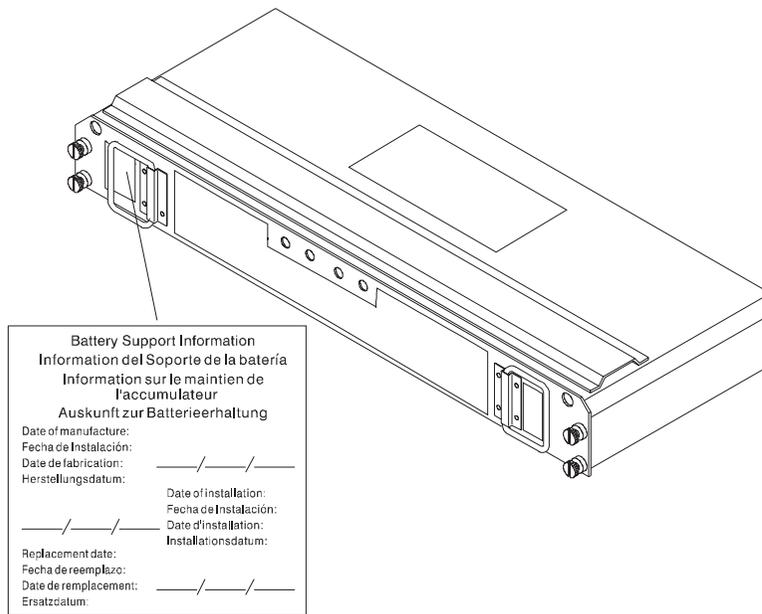

Figure 18. Recording the battery support information
- The service label on the battery provides a blank line for recording the last date on which the battery was serviced (see Figure 18 on page 36). Check this label to determine when to replace the battery. For information about using the software to track battery age, refer to the FAS*T* Storage Manager documentation and online help.
Unpack the battery CRU. Save the packing material for shipping the used battery CRU to a disposal facility. Find the “Battery Support Information” label on the front of the new battery CRU, as shown in Figure 18.